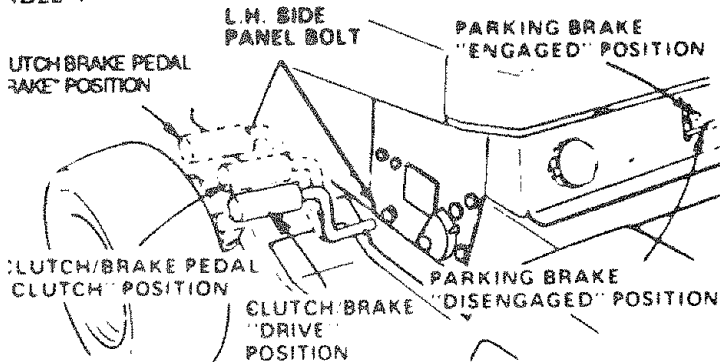

FIGURE 14
- Push clutch/brake pedal into full "BRAKE" position (Fig. 14).
- Place parking brake in "ENGAGED" position and release pressure from clutch/brake. Pedal should remain in "BRAKE" position (Fig. 14).
- c. Push clutch/brake pedal down firmly (Fig. 14).
- i. Release clutch/brake pedal to start movement (Fig. 14).